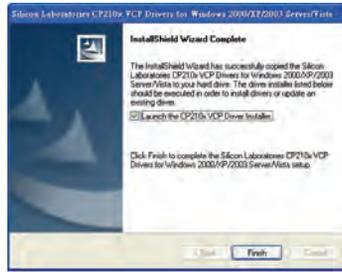

Fig.9
- (6) Select “Launch the CP210x VCP Driver Installer” option, then click Finish. (see Fig.9)